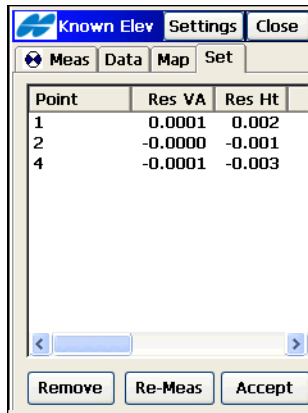

Figure 8-44. Calculate Vertical Coordinates for Unknown Points
6. Open the *Meas* tab. In the **Known Elev** screen (Figure 8-44), tap the **Accept** button. The vertical coordinate of unknown points will be calculated.